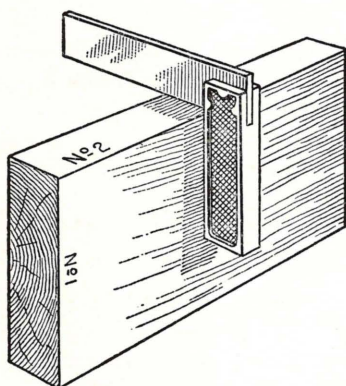

Fig. 26—Testing the edge of a board
2. Plane the best edge of the board square and true with surface No. 1. Test with a try square and straight edge. Mark this edge No. 2. (See Fig. 26.)